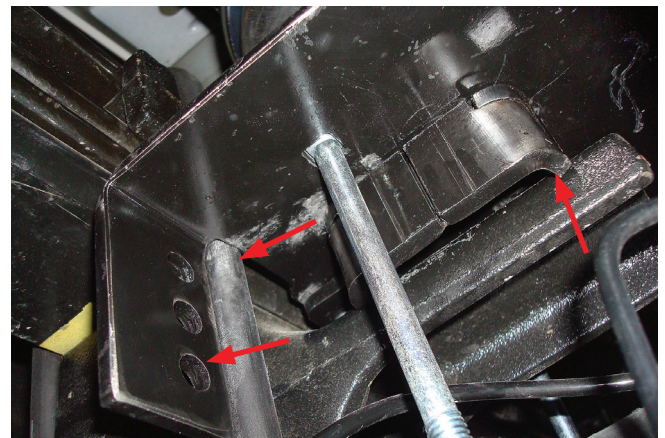

Fig. 28
2. Once assemblies are in position on the jounce bumper strike plate or axle, push the lower bracket so that it is flush against the leaf spring stack and both flanges on the lower bracket are locked around the stock U-bolts (Fig. 28).